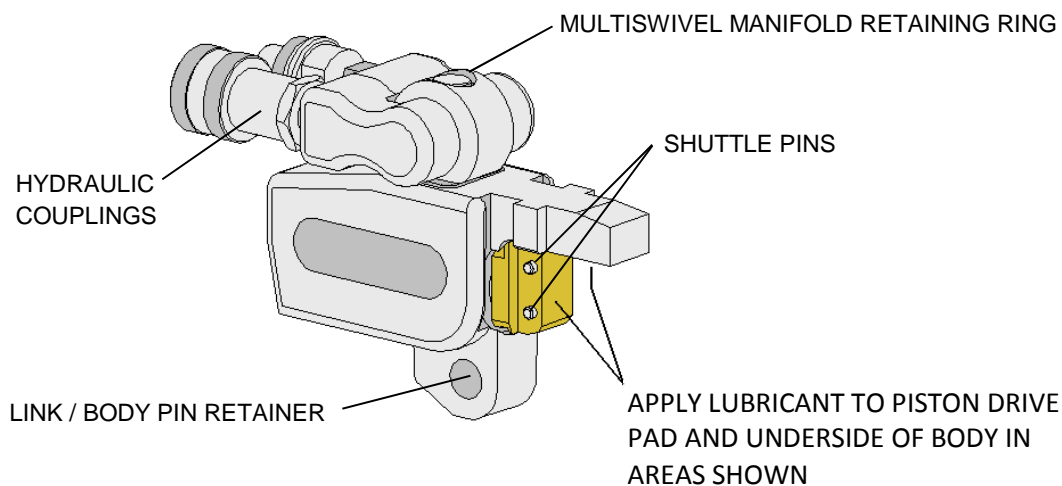

Figure 5. Body Maintenance
2. See figure 5. Remove the link from the body. Inspect the following areas (see diagram):
3. See figure 5. Lubricate the areas of the body using Revol R5 Moly Anti Seize.